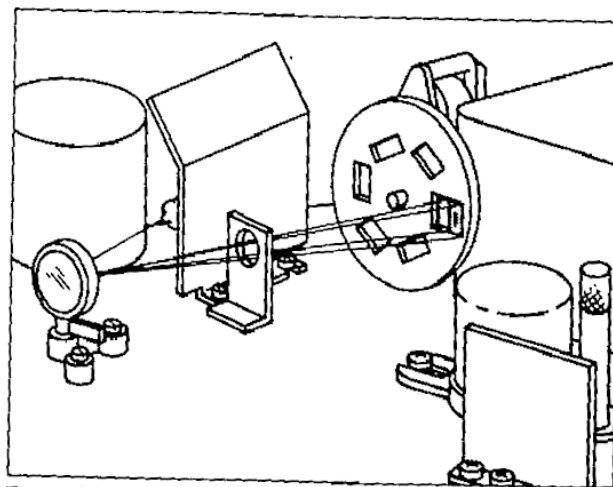

Figure 6-3b. Incorrect
- 12.5. If the light is not passing through the center of the filter as shown in Figure 6-3b, adjust the Tungsten-Halogen lamp adjustment screw (22) and/or the Tungsten-Halogen lamp vertical adjustment screw (30), as indicated in Figure.6.4, until the light is centered on the filter.